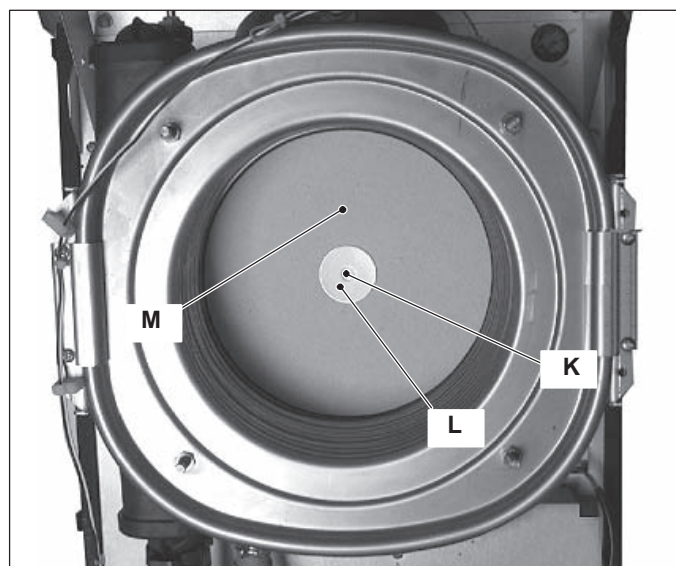

Figure 18.6
- 2 Unscrew the screw K, remove the washer L and the rear insulation M (Figure 18.6).